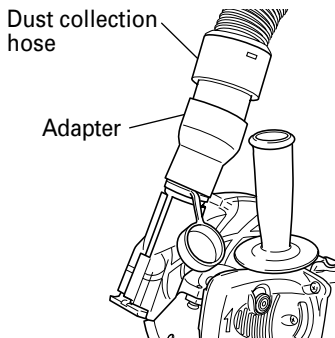

Fig. 4
- (1) Remove the rubber cap and install the accessory adapter. (Fig. 4)
- (2) Install the dust collector hose for the power tool in the accessory adapter. (Fig. 4)